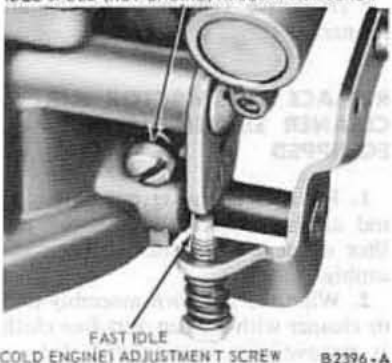

Fig. 14—Idle Speed Adjustments—Ford 1-V
1. Adjust the engine idle speed to specifications by turning the engine idle speed screw (Fig. 14) inward to increase the speed or outward to decrease the speed.
2. Turn the idle mixture needle (Fig. 14) inward until the engine rpm begins to drop, due to the lean mixture. On a car equipped with a Thermactor exhaust emission system, turn the needle outward ¼ turn. The outward adjustment of the idle fuel mixture needle is the final adjustment required. On a car without the Thermactor system, turn the needle outward until the engine rpm increases and begins to drop; then turn
On a Ford 1-V carburetor, the fast (cold engine) idle adjustment screw (Fig. 14) is located on the left side of the carburetor. Refer to Fast (Cold Engine) Idle Adjustment, below, for correct adjustment procedure.